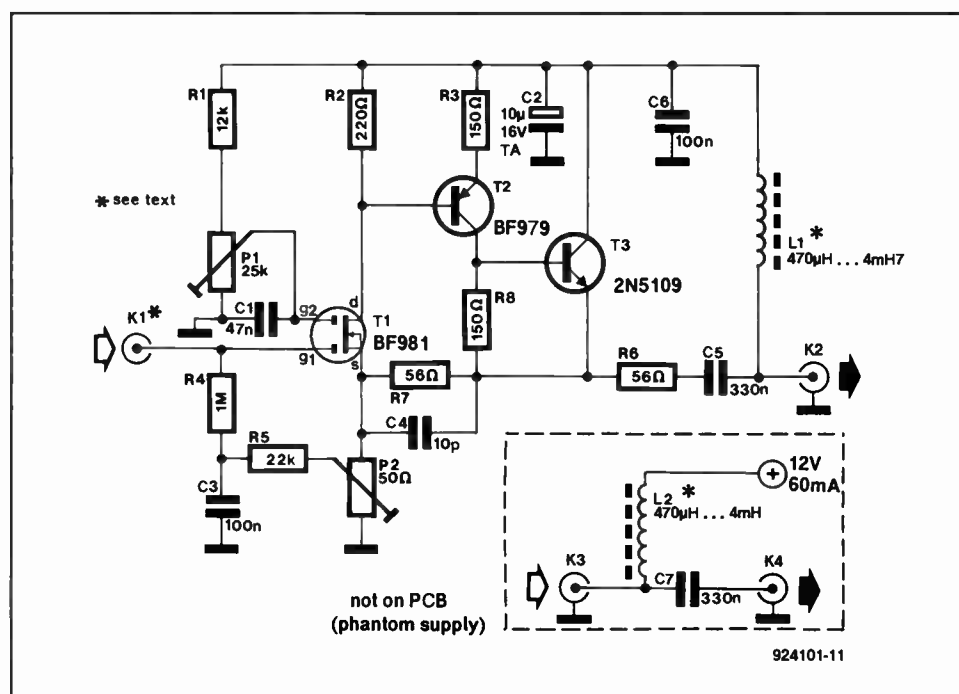

Fig. 1. Circuit diagram of the antenna booster and its phantom power supply.
lower, the MOSFET used here functions as an amplifier, and has an input capacitance of only 2 pF. As shown in the circuit diagram, Fig. 1, a BF981 is used.
The circuit does more than just spreading the switch-on times. It also has a facility that enables determining the switch-on instant with respect to the zero (voltage) crossing of the mains supply. The zero (voltage) crossing is just about the most unfavourable instant for switching inductive loads if it comes to preventing high peak currents. Assuming a pure inductance, voltage and current are  $90^\circ$  out of phase, so that the zero crossing occurs at the instant when the current is maximum. If the appliance is switched on at the zero (voltage) crossing, the current will be extra large because it has a tendency to make up for the lag. If it is switched on at maximum voltage, however, the current will almost immediately assume its nominal value—see Fig. 1. In the upper half of the figure, the appliance is switched on at the zero (voltage) crossing. The current is then initially 'lifted' well above the base line, after which it drops back slowly until equilibrium is reached. In this theoretical case, the current at switch-on has about twice the nominal value. In the bottom half, equilibrium is reached immediately, because the appliance is switched on at maximum voltage. In practice, of course, the correct switch-on moment will lie somewhere between the zero crossing and maximum voltage. Two examples will illustrate the point.
**Fig. 1. When a sinusoidal voltage across an inductance is switched on, the phase angle at which this happens determines the level of the peak current through the inductance.**